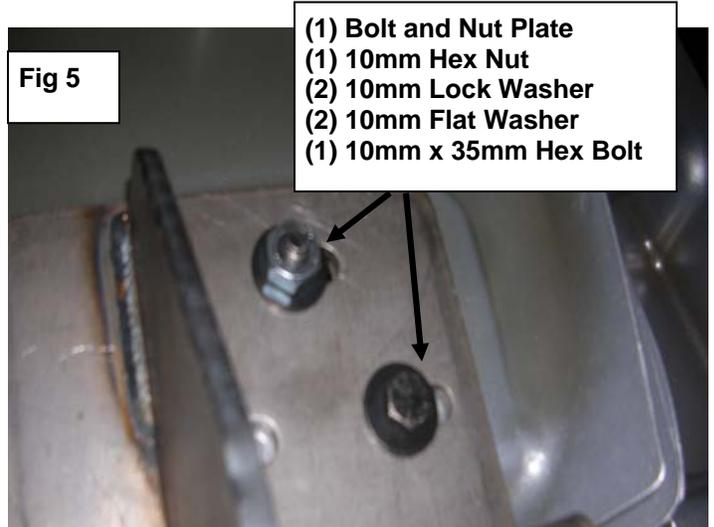

Fig 5
- Select the passenger side rear Brace Bracket. Position the Brace Bracket onto the installed Bolt and Nut Plate. Secure it with (1) 10mm Flat Washer, (1) 10mm Lock Washer and (1) 10mm Hex Nut, **(Fig 5)**. Do not tighten at this time. Rotate the Bolt and Nut plate until the Nut end lines up with the remaining hole in the Brace Bracket and body. Thread (1) 10mm x 35mm Hex Bolt, (1) 10mm Flat Washer and (1) 10mm Lock Washer into the threaded nut. Snug but do not tighten hardware at this time.